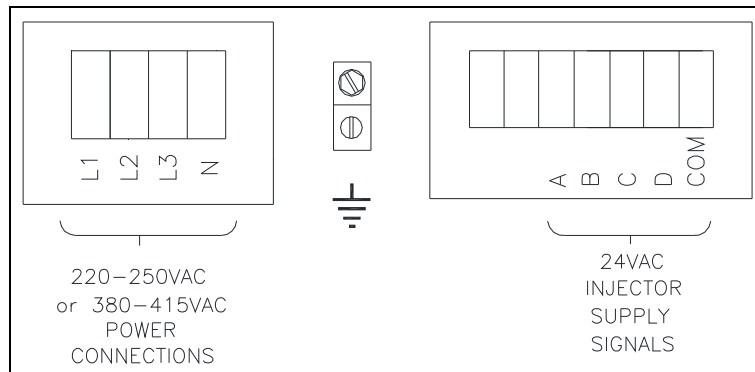

Figure 1-5: Electrical Connections and Chemical Supply Signals
- 1.6.1.2 Remove the rear panel near the upper left corner of the washer and locate the power terminal block near the back of the control compartment. Connections are as shown in Figure 1-5.
The washer control may be programmed to send six 24V output signals for a chemical injection system of up to four chemical sources. There are convenient electrical connection points for the injection pumps in the rear of the machine, as shown in Figure 1-5. The four independent pumps can be controlled through the signals A, B, C and D. The COM shown in Figure 1-5 is the common or return for these injection signals. For the injection sources, program codes 0 through 6 and their respective terminal block connections and combinations are as shown in **Error! Not a valid bookmark self-reference..**